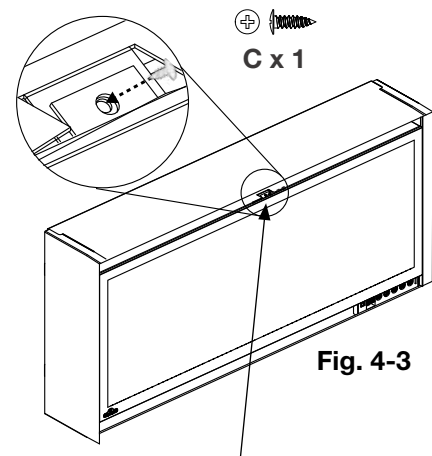

Fig. 4-3
2. Secure the top middle section of the front glass to the appliance using a screw (supplied) (**Fig. 4-3**).